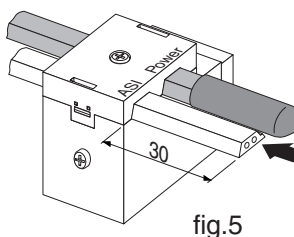

fig.5
- At the end of each line or branch of the installation, cut the cables at least 30 mm **after the last** connector (Fig.5).